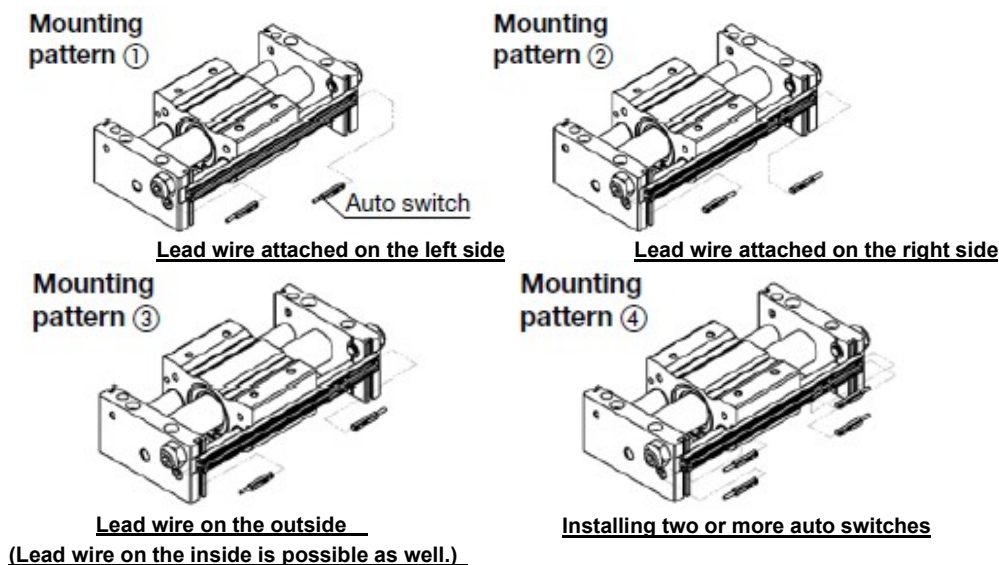

Fig.7 Mounting method of auto switch
When mounting an auto switch, there are three mounting methods (mounting patterns ① to ③) depending on the lead wire exit direction, as shown in Fig.7.